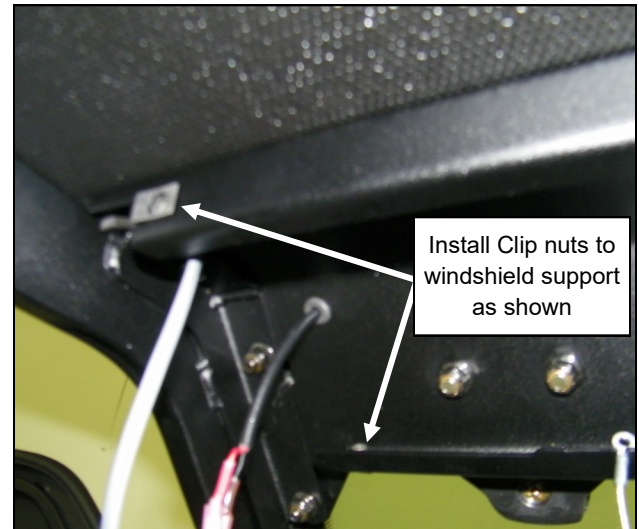

Fig. 4.1
- 4.1 Install a 1/4-20 clip nut (4 total) into the slots and holes at the corner of each flange of the windshield support, with the flat side of the nut on the outside. See figure 4.1.